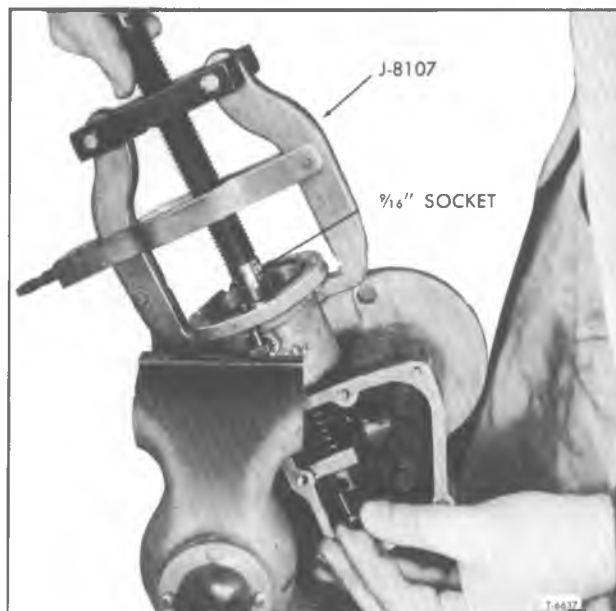

Figure 31—Clevis Pin Removal or Installation
4. Install Tool (J-8107) (fig. 31), over piston bore and clamp onto flange, install a 9/16" socket over self-locking nut and tighten down on tool until tension is relieved on clevis pin. Remove clevis pin (fig. 31).
5. Install clevis pin at push rod and actuator arm connection (fig. 31).